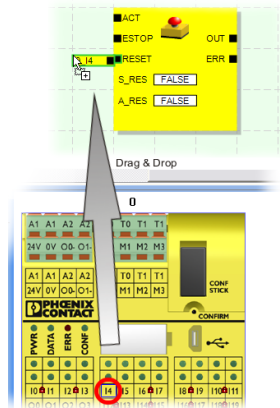

Figure 6-8 Inserting a signal in the connection editor
- Drag & drop the required input or output signals of the newly inserted module into the connection editor and connect them (see Figure 6-8 on page 83).
2. Drag the required (dual) input or output signal from the hardware editor to the connection editor (see Figure 6-8 on page 83).